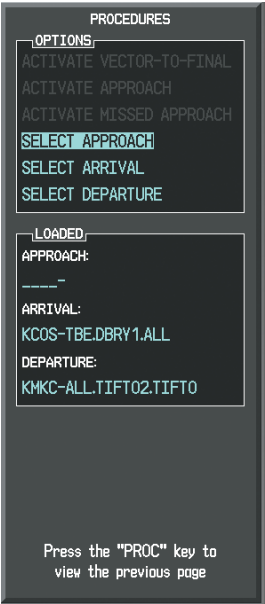

Figure 5-129 Procedures Window
b) 'SELECT APPROACH' should be highlighted as shown in Figure 5-129.